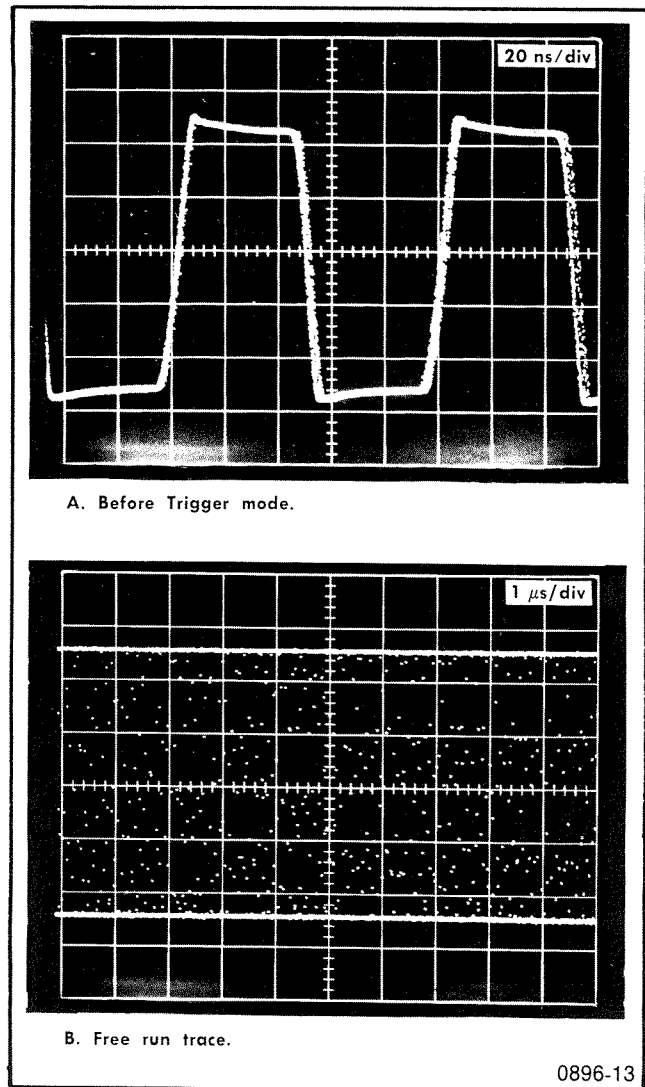

Fig. 4-6. Dot Transient Response check.
e. Set the sampling unit Dot Response so the top of the square wave is at unity loop gain (one trace). The bottom of the square wave can show two traces, but the dot response overshoot or undershoot must not be greater than 5%, or 0.25 major division on the graticule (see Fig. 4-6).
b. Adjust Gain control R49 for unity loop gain as shown in Fig. 4-6.